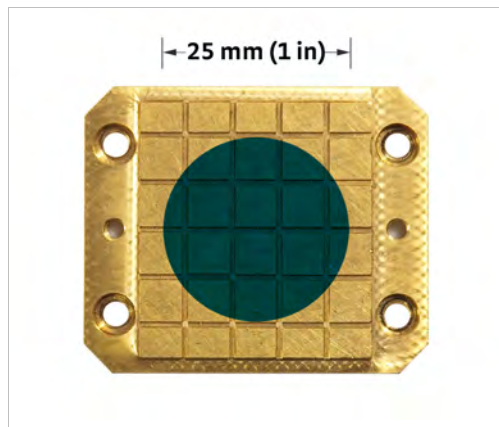

FIGURE 4-1 Probe area indicated with blue circle
5. Using the x and y-micrometers to adjust position, move the probe (it should travel smoothly) until the probe tip reaches all sides of the specified 25 mm (1 in) diameter probe area (see FIGURE 4-1 for probe area).
Each probe assembly includes a micro-manipulated translation stage with three axes of motion that are described in this section. All six available probes can be positioned in a 25 mm (1 in) diameter probe area in the center of the sample holder (FIGURE 4-1). The CPX can accommodate 32 mm (1.25) and 51 mm (2 in) sample holders, but the probe area is the same for both sizes. Individual probes can land outside the probe area in line with the probe arm. Due to translation limitations, individual probes cannot be landed on either side of the defined probe area. The sample should be positioned and aligned on the sample holder to take best advantage of the probe area (see section 4.3.3.1 for alignment).
Whole, 25 mm (1 in), wafers must be centered on the sample holder in order to fit onto the sample stage, to take advantage of the probe area (see FIGURE 4-1 for an image of the probe area). Smaller samples should also be centered to allow easy access by all probes.